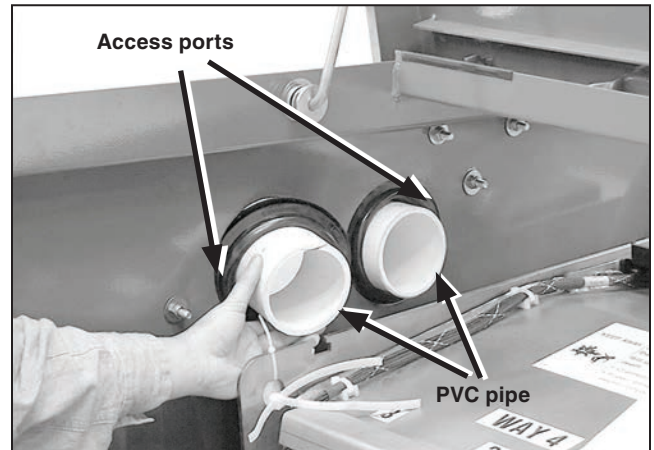

Figure 20. Insert the PVC pipe through the access port.
- Insert the three-inch PVC pipe through the access port. See Figure 20. Make sure equal lengths of pipe are showing in the low-voltage compartment and in the pad-mounted enclosure.